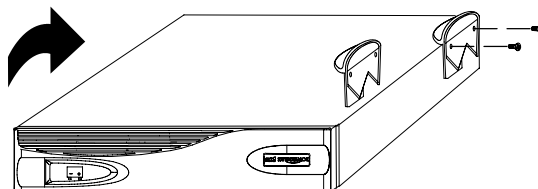

Figure 11. Installing EBM Pedestals
8. Place the EBM cabinet upside down so that the right end of the cabinet is accessible (see Figure 11).